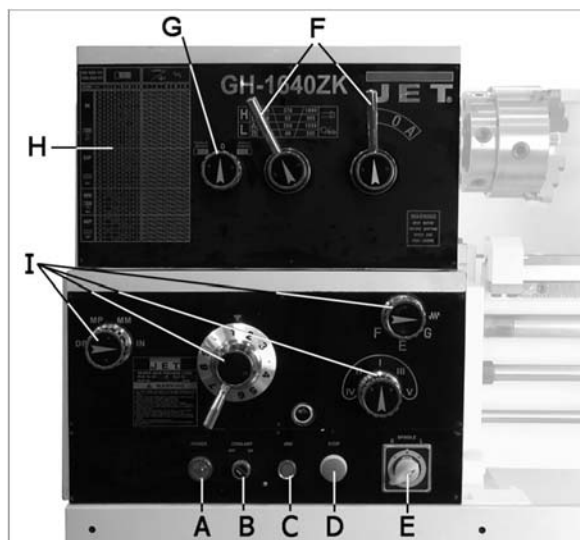

Figure 19 – Headstock Controls
- **Power Indicator Light (A, Figure 19).** Illuminates whenever lathe is receiving power.
- **Coolant On-Off Switch (B, Figure 19).** Activates coolant pump.
- **Jog Button (C, Figure 19).** Quickly press and release to rotate spindle.
- **Emergency Stop Button (D, Figure 19).** Shuts down all machine functions. **NOTE:** Lathe will still have power. Twist button clockwise to reset.
- **Motor Speed Switch (E, Figure 19).** Turn to select high or low speed.
2. **Speed Selection Levers (F, Figure 19):** Move levers left or right to desired spindle speed, according to accompanying chart.
3. **Feed Direction Knob (G, Figure 19):** Rotating the knob changes direction of feed. Center position is neutral.
4. **Lead and Feed Selector Levers (I, Figure 19):** Used conjunctively to set up for threading or feeding, according to the accompanying chart (H, Figure 19).